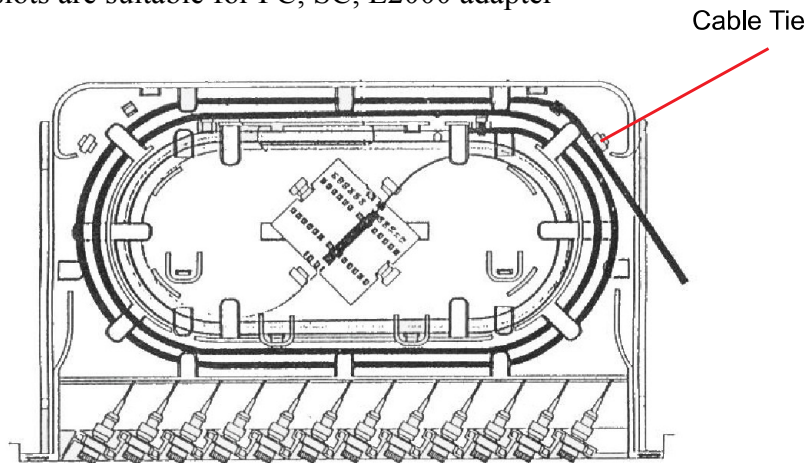

Figure 8
- 4.2 Route the outside plant fiber as per figure 8 for proper bending radius, tighten the buffer tube for strength relief.